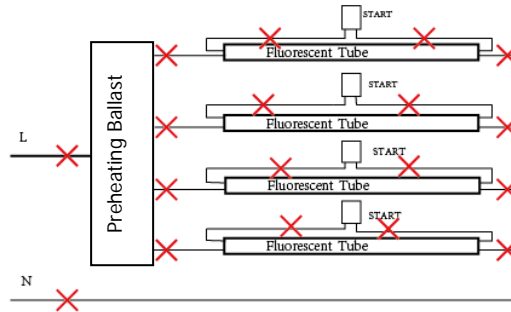
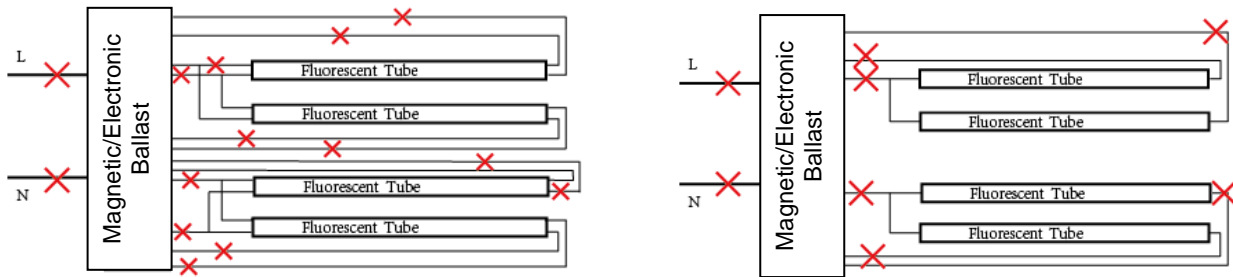

Fig. 3 (Removing Preheating Ballast) or
Fig. 4 (Removing Magnetic/Electronic Ballast)
STEP 5: In accordance with the bellow drawing, cut off all wires connected to the ballast and starter (if provided), shown as below, Fig. 3 (Preheating Ballast) or Fig. 4 (Magnetic/Electronic Ballast):